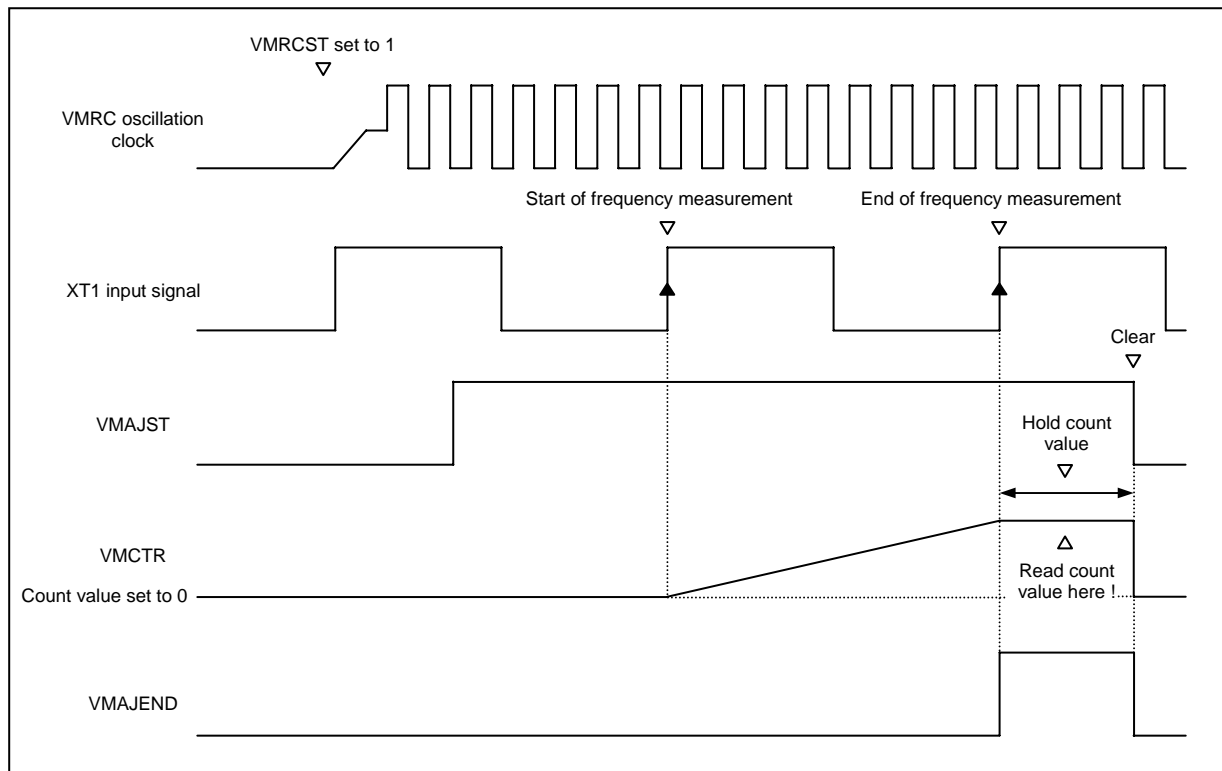

Figure 4.3.2 VMRC Frequency Measurement Timing Chart
- 2) Setting VMAJST to “1” after VMRC oscillation starts, VMRC frequency counter counts the VMRC oscillation for one period of input signal from XT1 pin as a reference (See figure 4.3.2).
- 3) Setting VMAJST to "1" after VMRC oscillation starts, VMRC frequency counter counts the VMRC oscillation for one period of input signal from XT1 pin as a reference (See figure 4.3.2).